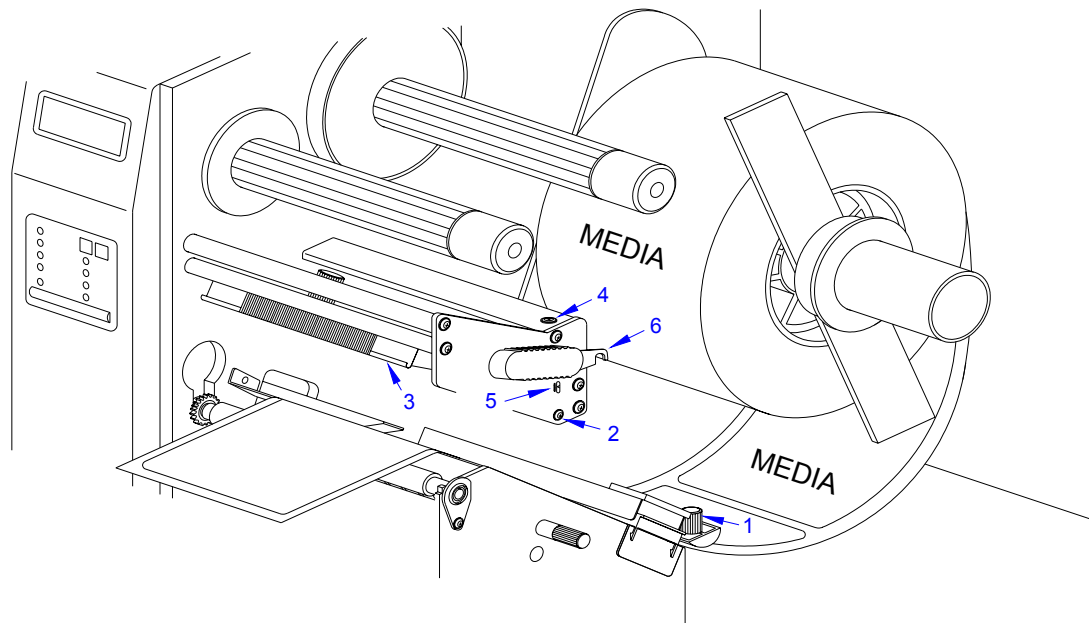

Figure 8-3, Print Head Balance Adjustment
- 5 Loosen paper guide thumbscrew (1, Figure 8-3) and adjust guide fully outward.